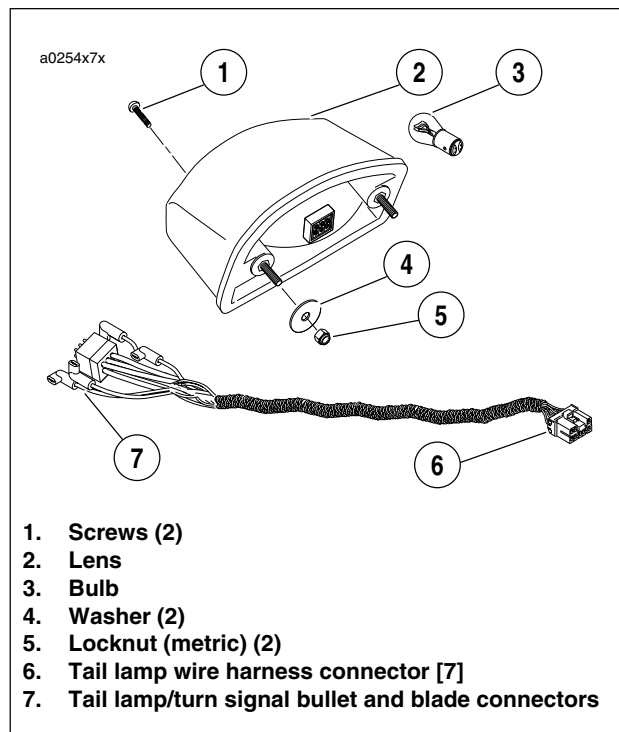

Figure 7-65. Tail Lamp
1. See Figure 7-65. Remove two screws (1) and lens (2).
2. Rotate bulb (3) counterclockwise and pull to remove.
1. See Figure 7-65. Disconnect the tail lamp connector (7) from rear of tail lamp under tail section.
2. Remove two locknuts (metric) (5), washers (4) and tail lamp.
1. See Figure 7-65. Attach tail lamp to tail section with two washers (4) and locknuts (metric) (5). Tighten locknuts to **23-28 in-lbs (2.6-3.2 Nm)**.
2. Attach the tail lamp connector (7) to the back of the tail lamp.